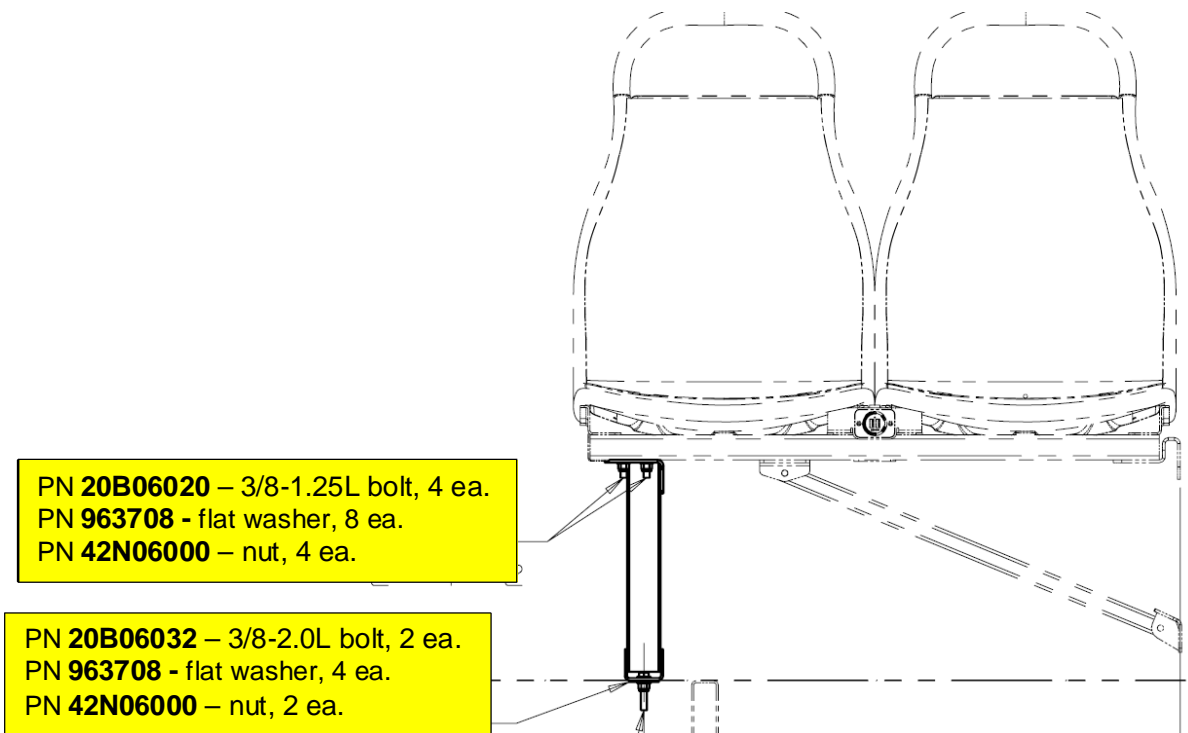

Figure 7: Upper and lower mounting hardware of the pedestals
9. Place 1 ea. flat washer (PN **50W06000**) onto each 3/8-2.0L 2 ea. bolts (PN **20B06032**) and push them through the pedestal and the floor. Place flat washer and nut (PN **42N06000**) on each bolt underneath floor. Refer to Figure 7.